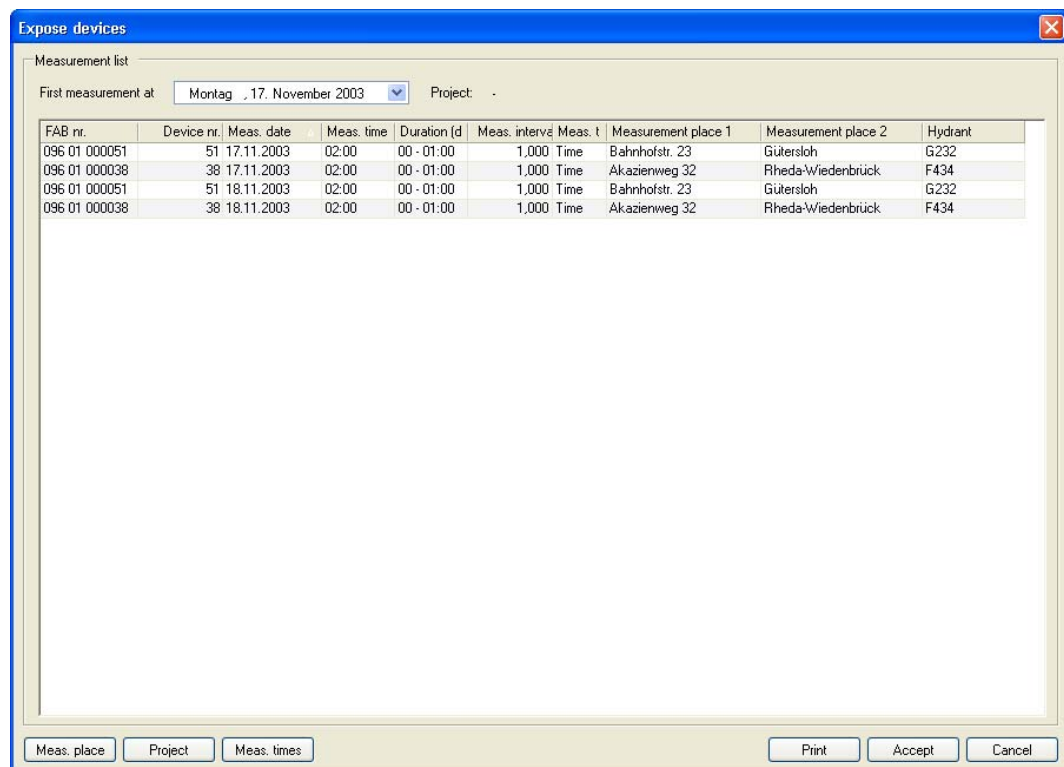

Fig. 20: **Expose devices** window
- In the **Expose devices** window (fig. 20), click on **Project**. The **Select project** window appears. If project names are already available, you can select an entry from the indicated list.
- In the **Expose devices** window (fig. 20), assign a measurement place to the appropriate measurement (i. e. the device), provided that you did not do it yet (see previous section).